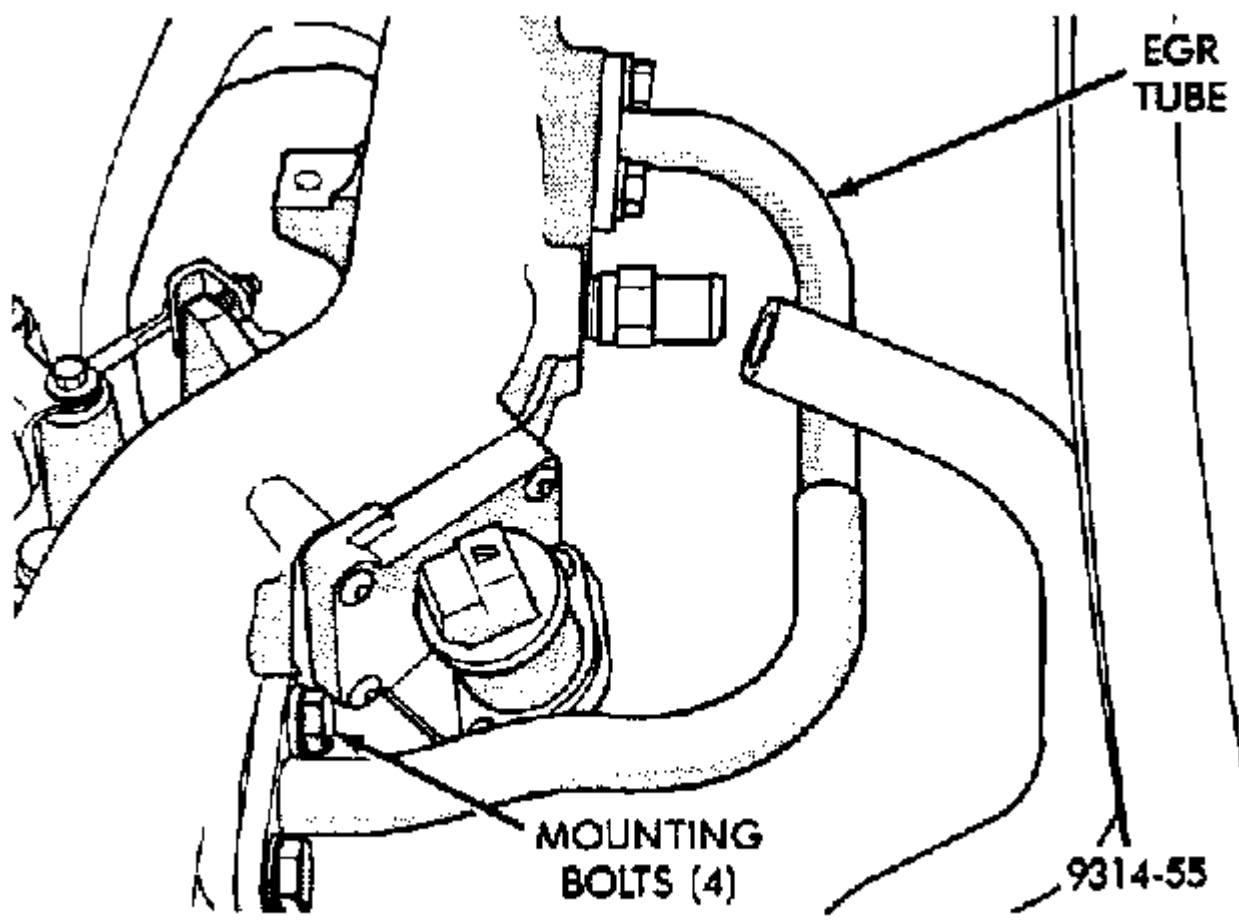

Figure 5
31. Connect the EGR tube to the intake plenum (Figure 5) as follows: